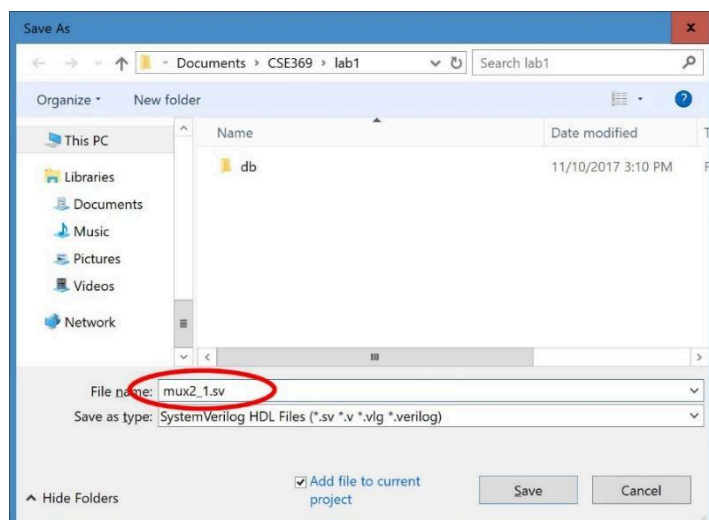

Figure 2: Saving and naming Verilog files in Quartus.
- b. **Name the file.** The new file is opened for you in Quartus’ text editor, but doesn’t have a name yet. Go to File→Save As and give it the same name as the module you are designing (e.g., *mux2_1.sv* as shown in Figure 2). The title bar for the editor pane will change.